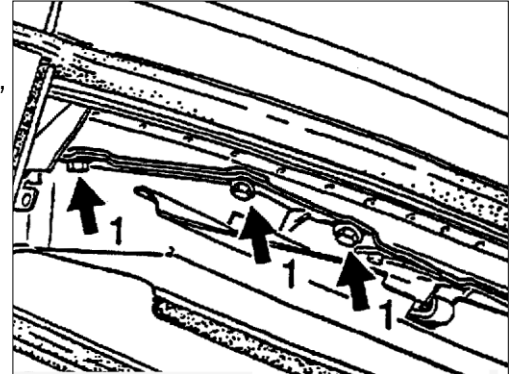
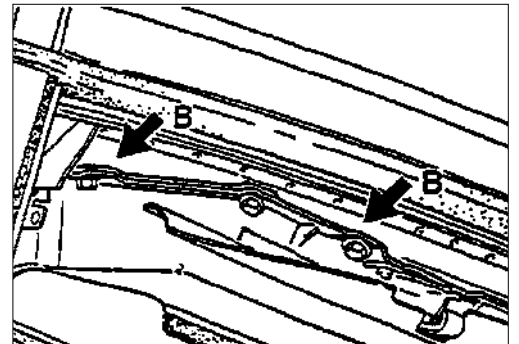

Figure 10
Figure 11
**Note:** As of June 12, '96, new collar bolts are installed (Figure 10 arrows) on the windshield frame/roof module, part number, 900 378 163 09.
- Replace the securing bolts (Figure 10, arrows). On earlier vehicles remove the existing allen head bolts (Figure 10, arrows) one at a time and replace with the new collar bolt, part number, 900 378 163 09 (M6 x 16 micro encapsulated) without washers, and torque to specifications.
- If a felt or plastic strip has been installed between the windshield frame and bracket (Figure 10, arrows) mark the position of the bracket to the windshield frame using tape (Figure 11 pos. B) and remove all bolts at the same time. Before tightening the new bolts, adjust the bracket to its original position and torque the bolts to 12.5 + 0.5 Nm (9 + 0.4 ft/lb).